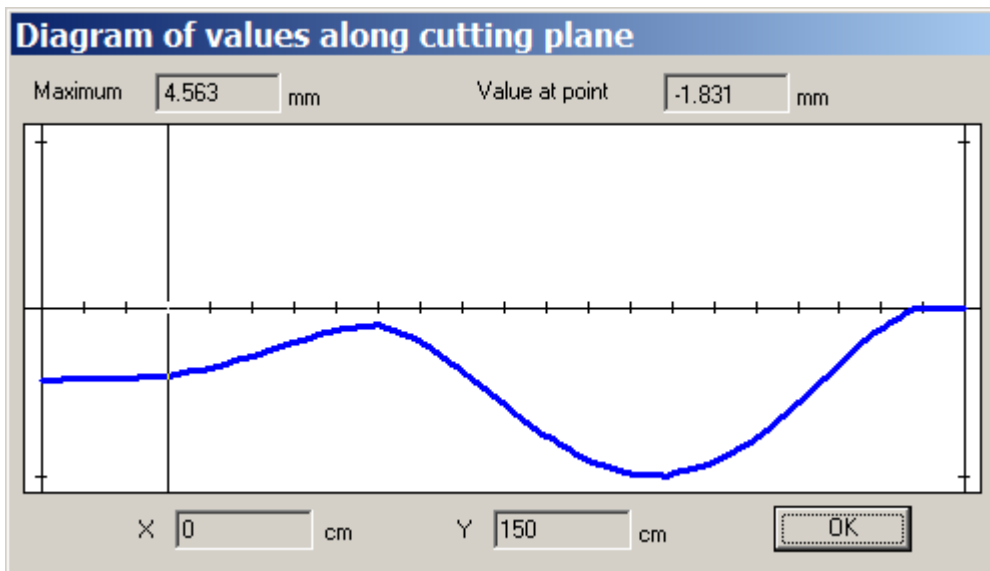

Figure 2.4.4 **Diagram of values (displacements) along cutting plane** dialog box
- ⇒ In the **Diagram of values along cutting plane** dialog box (see Fig.2.4.4), do the following: